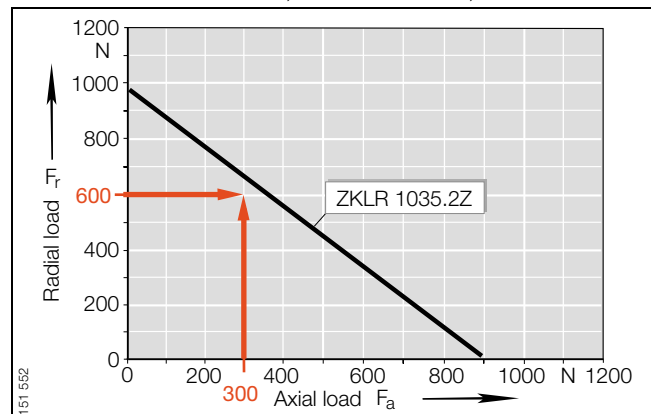

Figure 3 · Sample application of the static limiting load diagram for ZKLR 1035.2Z
- If the operating loads F_a and F_r are below the curve, then the bearing size is suitable for the application (Figure 3):